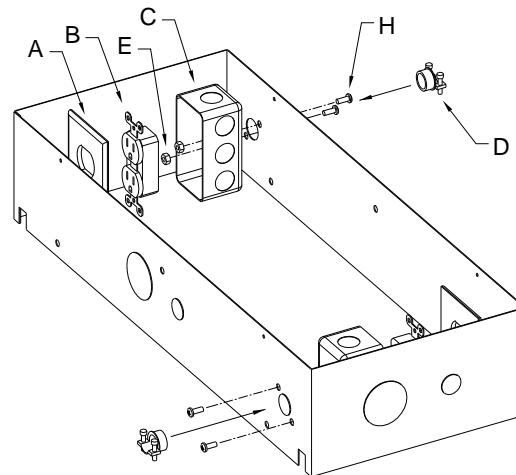

Figure 1
4. (Optional) Assemble Junction Box to the inside of the Plenum Cover in one of two possible locations. See Figure 1.